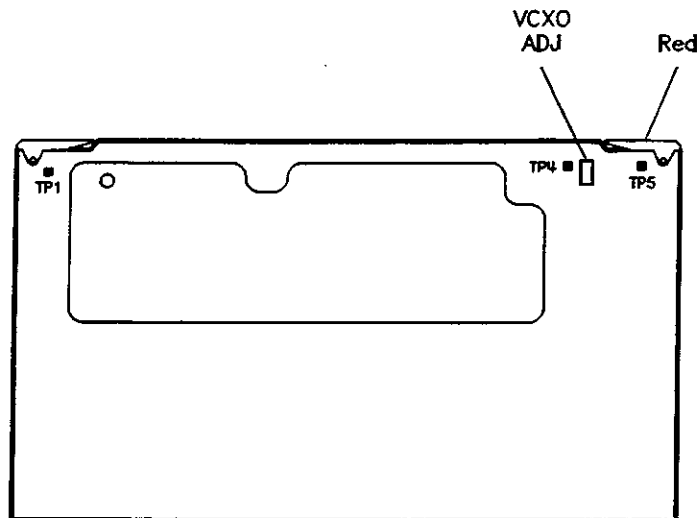

Figure 5-8. VCXO Adjustment Location
3. Otherwise, locate the A12 assembly (red extractors) and adjust VCXO ADJ (see Figure 5-8) for a frequency counter reading as close to 13.5 GHz as possible.